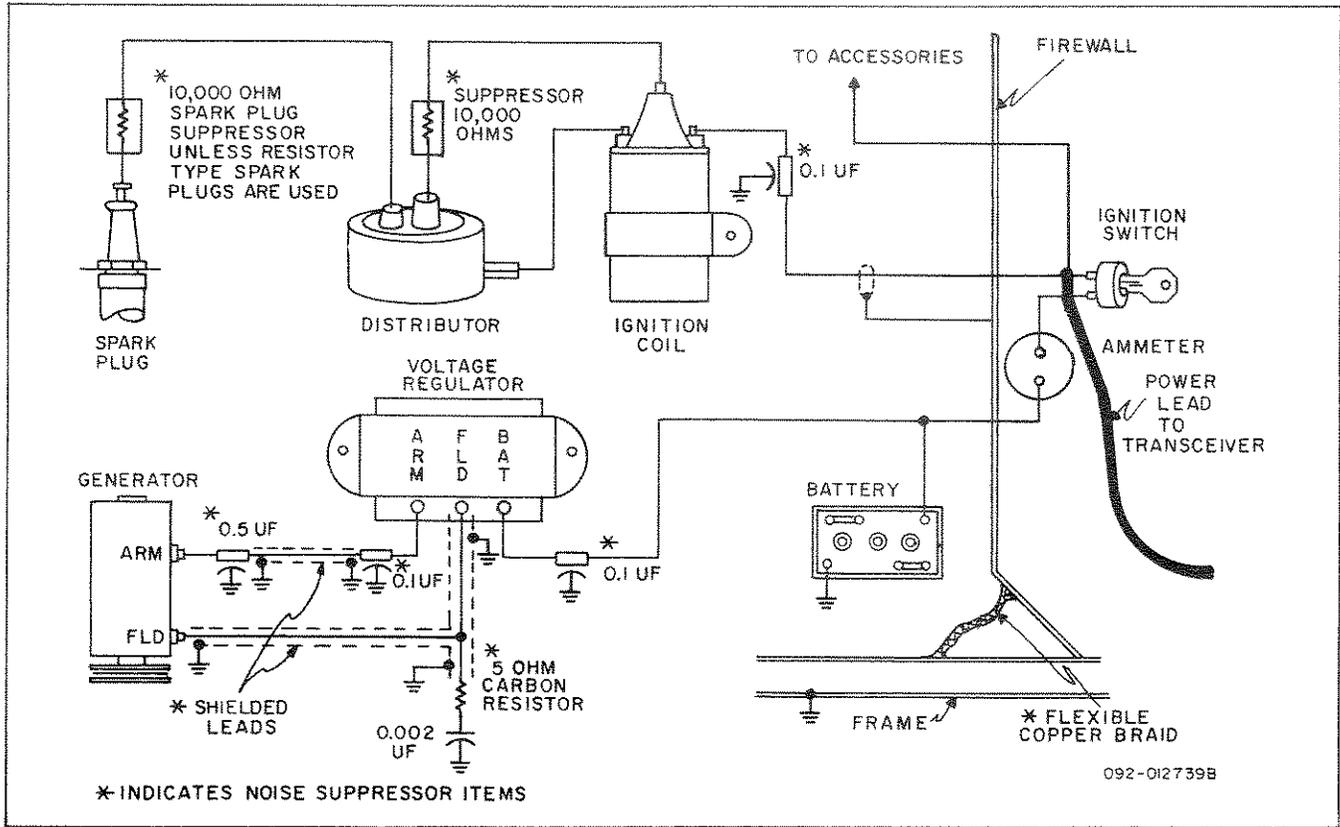

Figure 9. Electrical Noise Suppression Components Installation Diagram.
The vehicle's ignition system is the greatest cause of radio noise generation. Prior to installation of any suppression components, the entire ignition system should be checked to make sure it is in good operating condition. Check for spark plug breakdown under a compression test. Check ignition leads for continuity. It may be necessary to solder the clips on the ends of the ignition lead to insure that they are making a metal contact. Check the condition of the generator brushes, commutator, and armature. Check the distributor points for pitting and correct adjustments. Check the distributor cap for signs of cracking and clean contact points. Check the distributor rotor for signs of wear. It may be necessary either to install a new rotor or build up the rotor contact point with solder to insure a clean contact with the contacts inside the distributor cap. Even if the ignition system is in good condition mechanically, there still may exist many potential trouble spots (in terms of radio noise generation) that must be located and corrected before maximum noise suppression can be obtained. Suppressor kits are commercially available which contain all necessary parts for reducing noise generated by most vehicles. As detailed instructions are normally packed with the Suppressor Kit, only measures that can be taken to reduce noise will be discussed here. Refer to figures 9, 10, and 11.
3. Regulator. — Install two 0.1-UF capacitors (Sprague 80P1) at the regulator, one at the battery (BAT) terminal and one at the armature (ARM) terminal, and a regulator suppressor assembly (see figure 9) between the field (FLD) terminal and ground.